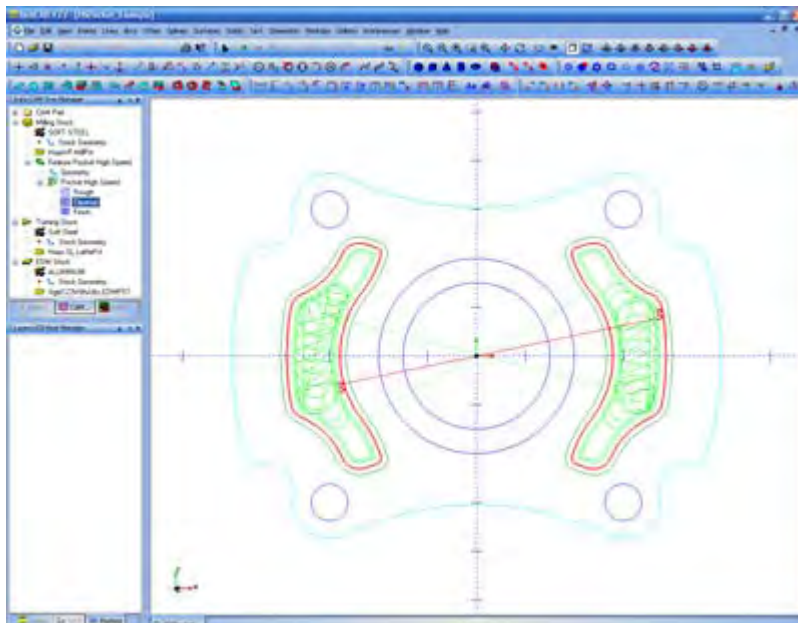

figure 18.1
18. Now right click on **Cleanup** in the CAM tree right below **Rough** and select **Color**. Pick a different color, so that the **Cleanup** tool path color is different than the other tool paths and click **OK** to apply the chosen color (figure 18.1).